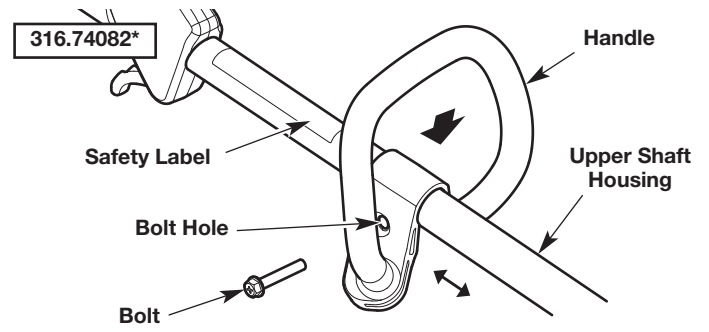
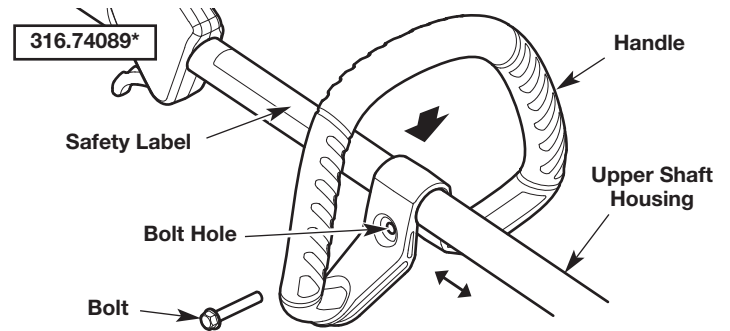

Fig. 5
Fig. 6
1. Push the handle down onto the upper shaft housing (Fig. 5 or Fig. 6). Make sure the bolt hole faces to the right (Fig. 5 or Fig. 6).
2. Insert the bolt into the bolt hole and push it through (Fig. 5 or Fig. 6). Tighten the bolt with a flat-head screwdriver, but do not tighten the bolt completely.
3. Hold the unit in the operating position (Fig. 13). Move the handle up or down the upper shaft housing to a comfortable location (Fig. 5 or Fig. 6). Make sure the handle is positioned beyond the end of the safety label (Fig. 5 or Fig. 6).
1. Loosen the bolt with a flat-head screwdriver (Fig. 5 or Fig. 6).
2. Hold the unit in the operating position (Fig. 13). Move the handle up or down the upper shaft housing to a comfortable location (Fig. 5 or Fig. 6). Make sure the handle is positioned beyond the end of the safety label (Fig. 5 or Fig. 6).